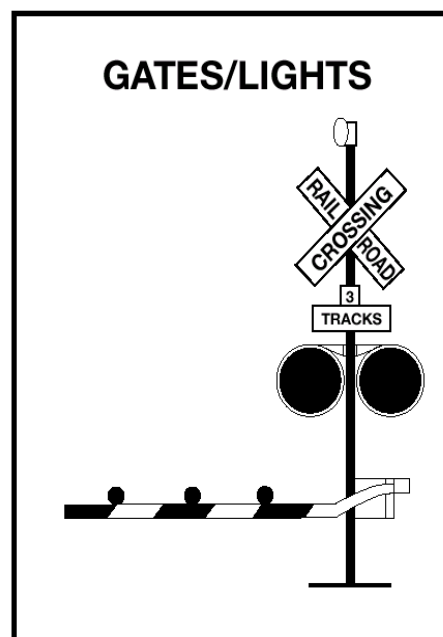

Figure 10.8
than one track, make sure all tracks are clear before crossing. See Figure 10.8.
**Gates.** Many railroad-highway crossings have gates with flashing red lights and bells. Stop when the lights begin to flash and before the gate lowers across the road lane. Remain stopped until the gates go up and the lights have stopped flashing. Proceed when it is safe. If the gate stays down after the train passes, do not drive around the gate. Instead, call your dispatcher. See Figure 10.8.